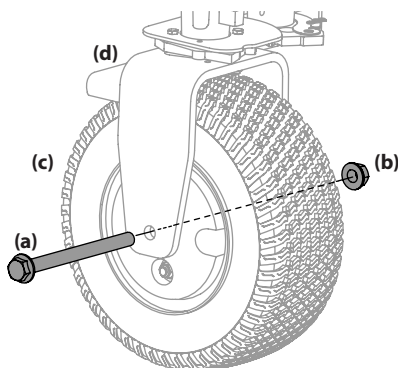

**Figure 4-16**
3. Remove the four lug nuts (a) to remove the inner tire. See Figure 4-16.
4. If replacing the inner tire, remove the four hex screws (b), washers (c) and jam nuts (d) that hold the mounting screws in place for the dual wheel adapter. See Figure 4-16.